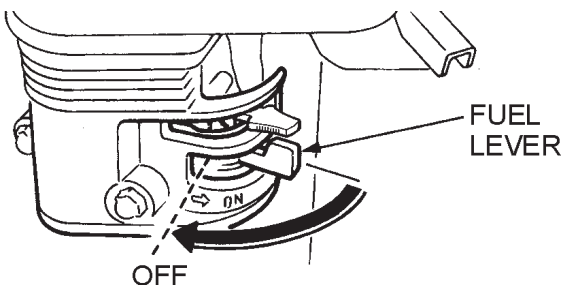

Figure 32. Fuel Valve Lever (Off Position)
3. Place the fuel valve lever (Figure 32) to the **OFF** position.